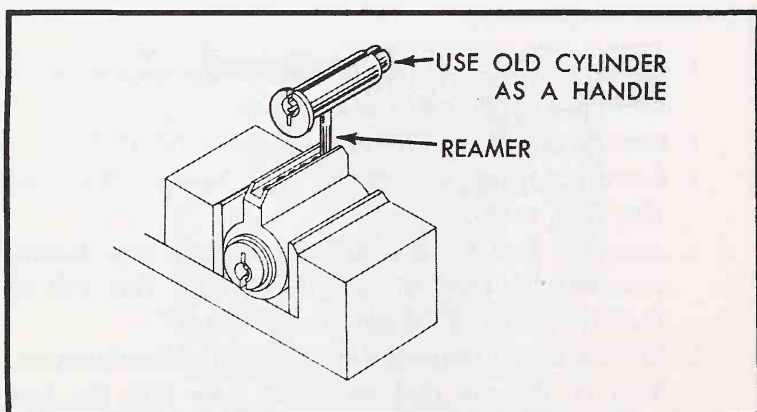

Fig. 13-24. Ream the pin holes through the shell, master ring, and plug.
3. Ream pin holes through the shell, master ring, and plug (Fig. 13-24).